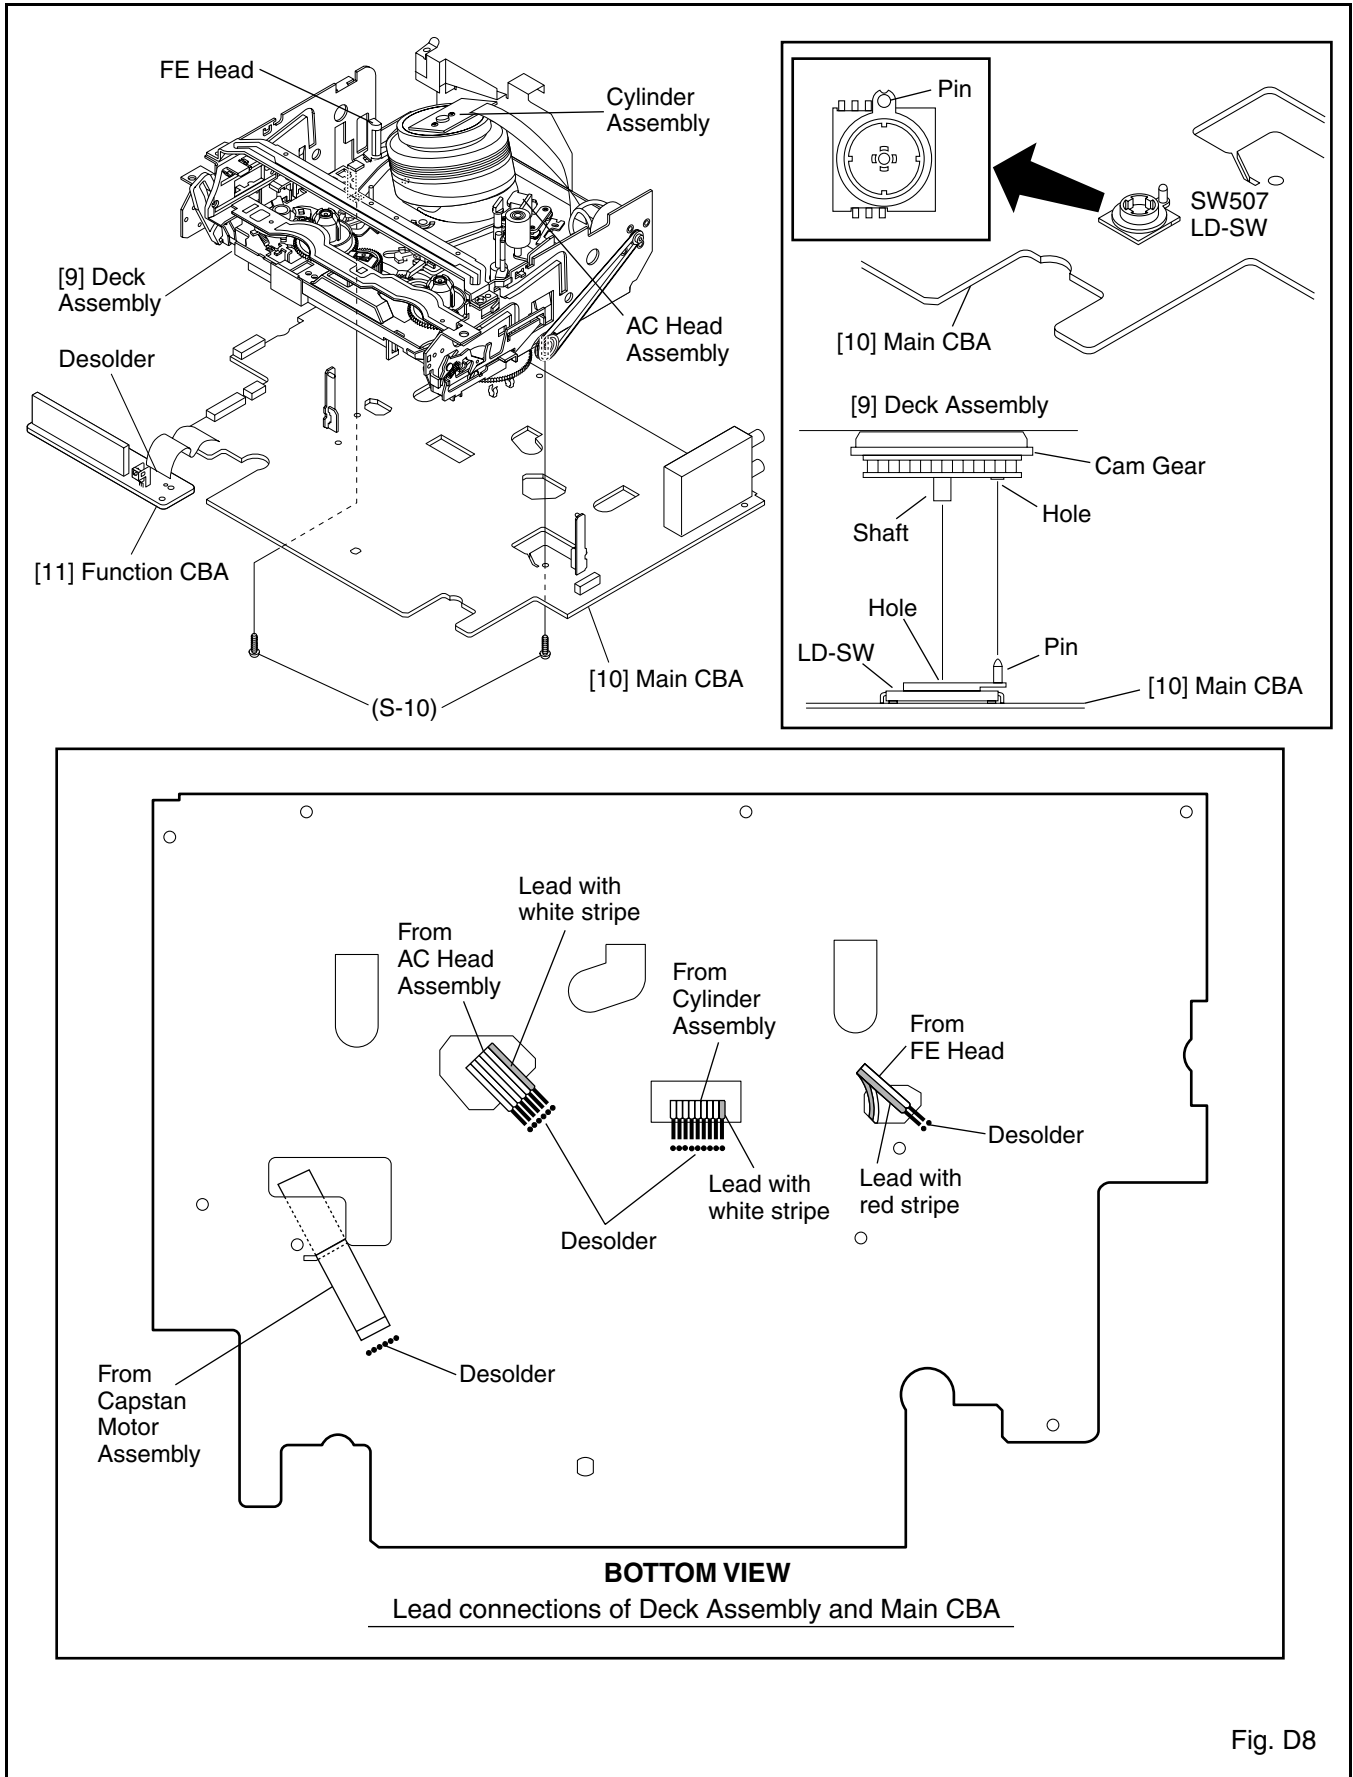

Fig. D8
4. When reassembling, solder wire jumpers as shown in Fig. D8.
5. Before installing the Deck Assembly, be sure to place the pin of LD-SW on Main CBA as shown in Fig. D8. Then, install the Deck Assembly while aligning the hole of Cam Gear with the pin of LD-SW, the shaft of Cam Gear with the hole of LD-SW as shown in Fig. D8.